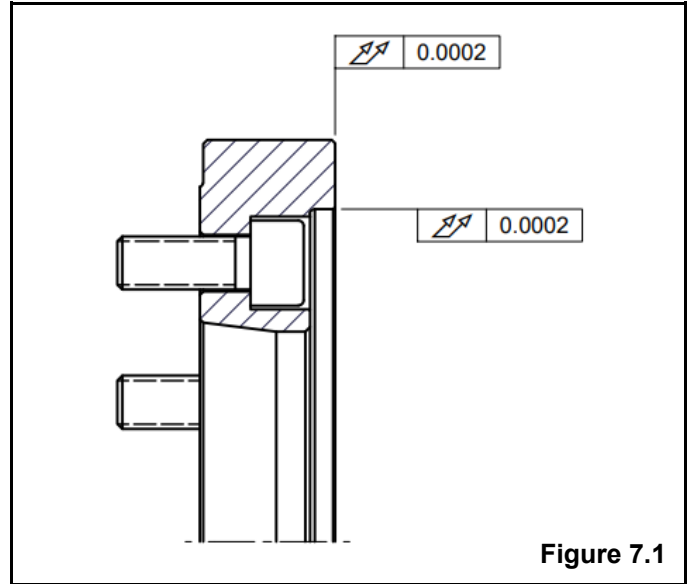

Figure 7.1
3. Use a dial indicator to measure the radial and face runout of the mounting surfaces of the adapter plate. Radial runout should not exceed  $.0002''$  ( $0.005\text{mm}$ ), as seen in Figure 7.1. Runout of the face should not exceed  $.0002''$  ( $0.005\text{mm}$ ). On flat spindle noses, the radial runout can be adjusted by loosening the mounting bolts and tapping the mounting plate with a plastic hammer. On tapered spindle noses no adjustment is possible. If the runout exceeds these values, remove the adapter from the spindle nose and ensure it is seated properly, and is clean and free from nicks and burrs. A skim cut can be taken on the pilot diameter and mounting face of the adapter once mounted to ensure both surfaces are running true.